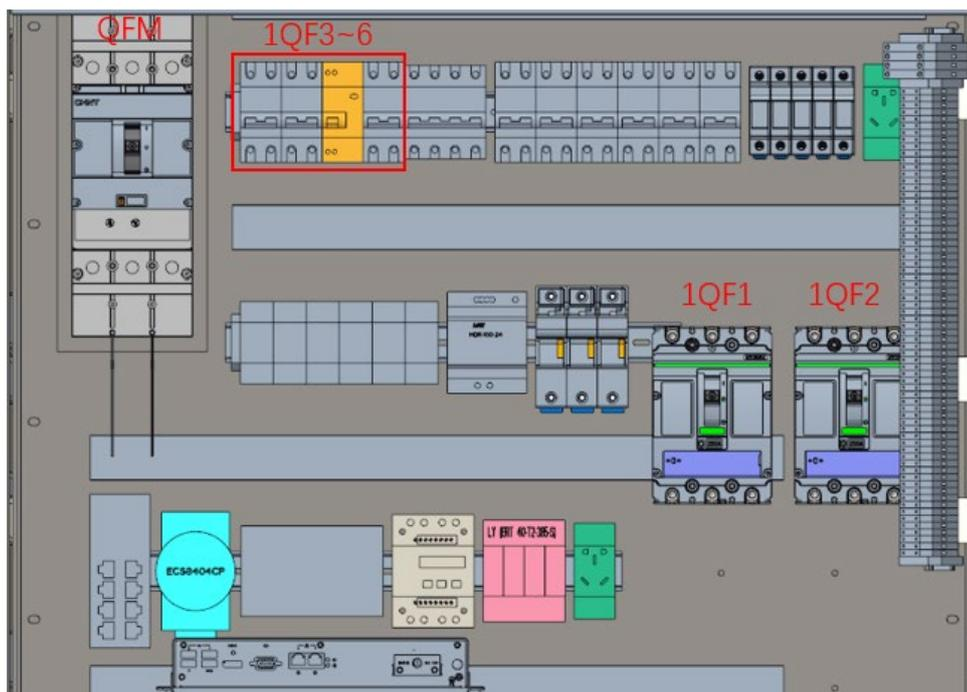

Figure 4- 10 Measurement and control cabinet
3. The operator wears high voltage operation protective clothing and then move to the medium-voltage cabinet, and manually rotate the brake knob of the circuit breaker of the inflatable cabinet, so that the circuit breaker is opened and the DXN light of the live display is off, and then use the operating rod of the inflatable cabinet to rotate the isolation switch to the point. See Figure 4- 6.